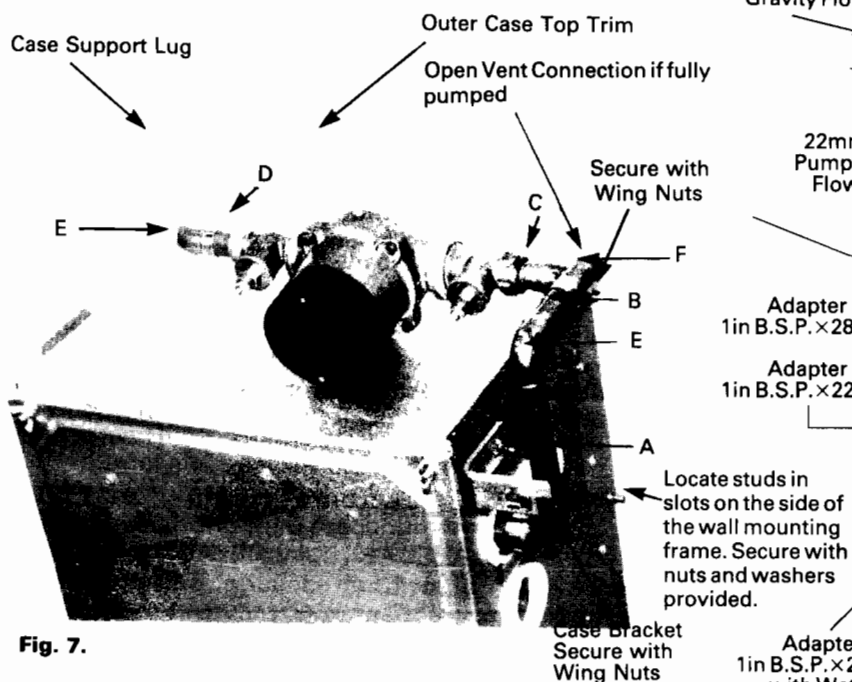

Fig. 7.
5. Secure the wall mounting plate to the wall with the three coach screws and plugs provided in the plastic bag in the boiler pack. Check that the wall mounting plate is level. Hang the boiler. (Figs. 7 & 9).
- (c) Before connecting any pipework fit the outer case top trim as shown in Fig. 7. This is located in the boiler pack.
- (d) Pipework can be routed over the top of the combustion box to a position anywhere across the width of the casing (see Fig. 7) and arranged to clear the ceiling joists at right angles to the front face of the appliance.
Pump (Fig. 7)
Pump in Outer Case (Fig. 7).
- (a) Fit the top RH side case bracket to the boiler and secure it with the two wing nuts provided. (packed with the boiler in a plastic bag) see Fig. 7 for details.